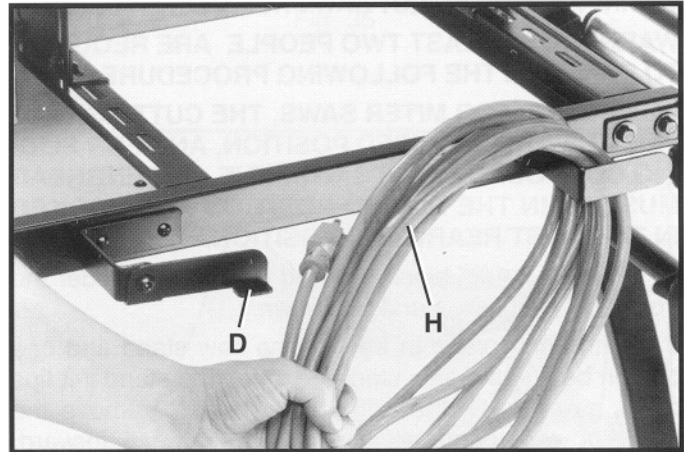

Fig. 43
6. For fast removal of the extension cord, simply rotate retainer (D) Fig. 43, of left hand cord wrap to the right as shown. This allows the extension cord (H) to be removed quickly, eliminating the need to unravel it.